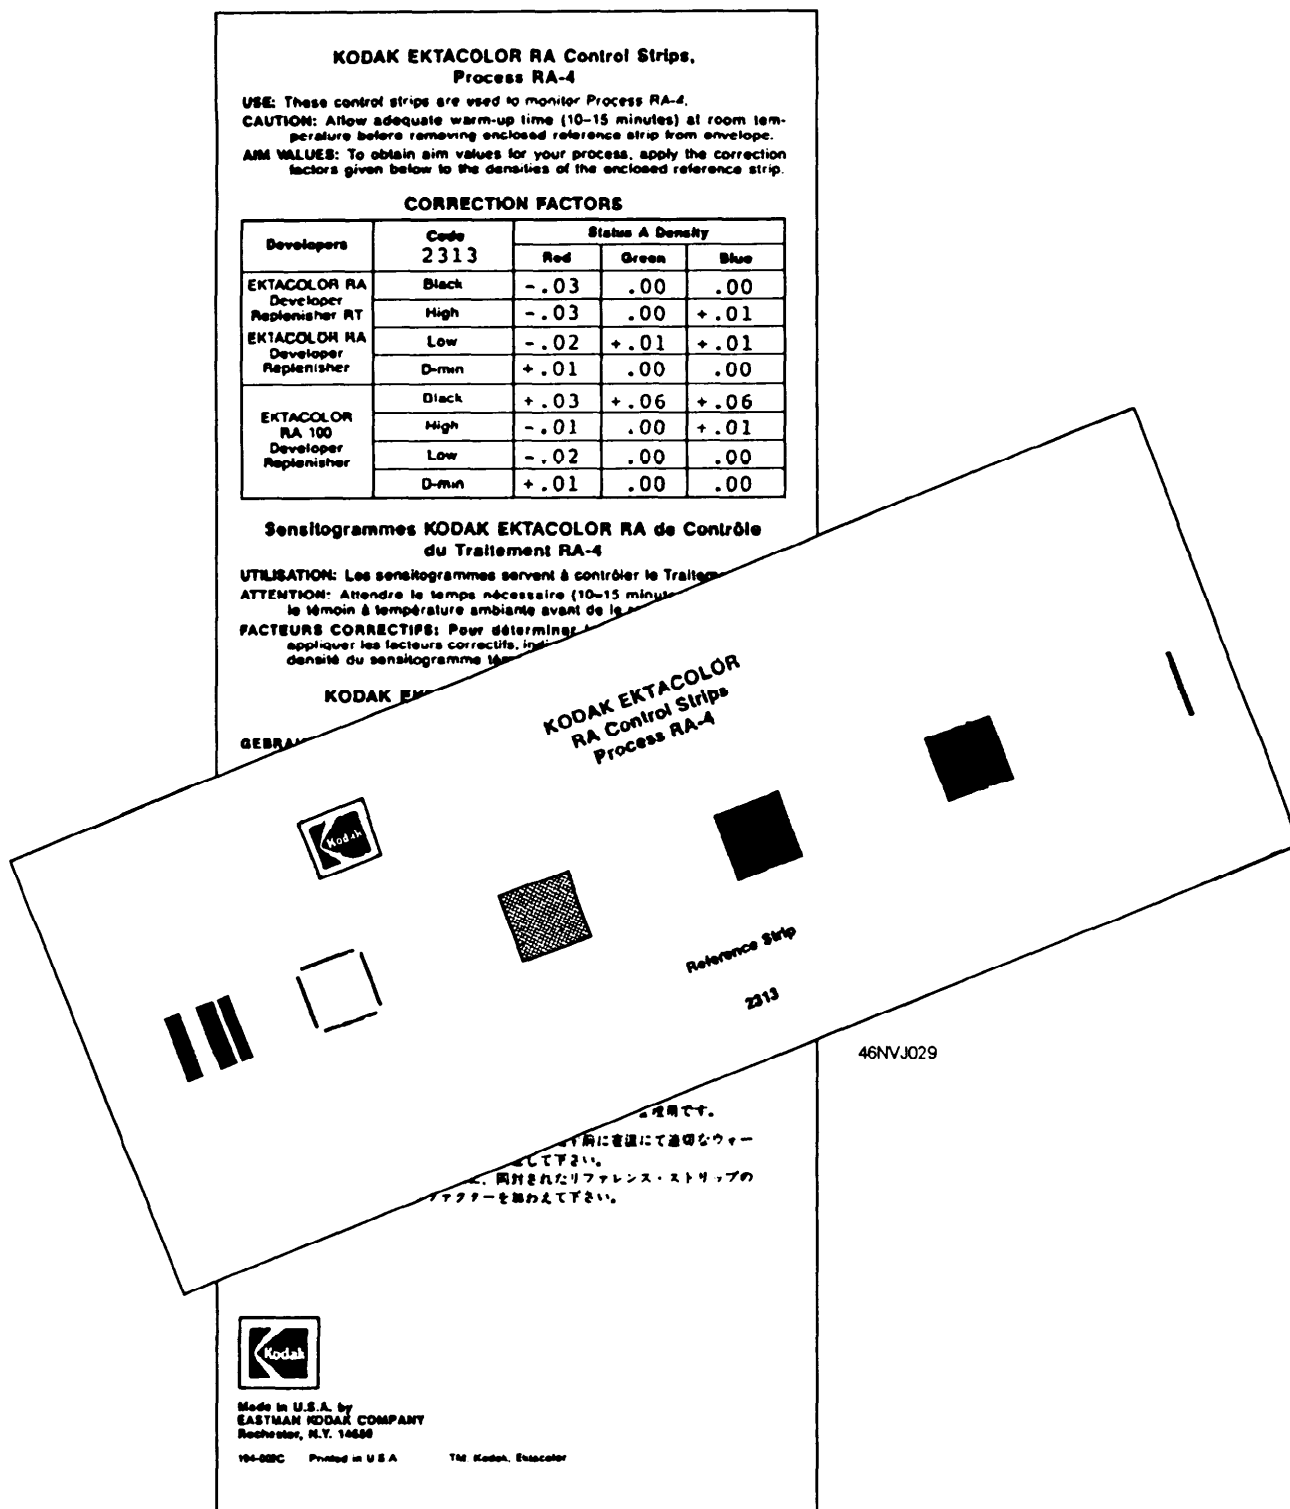

Figure 2-16.—Correction factors supplied with control strips.
2. Determine initial reference values for the particular code of control strips you are using. This generally consists of reading the reference strip on the densitometer, recording the densities, and adding or subtracting correction factors (supplied with control strips). (See fig. 2-16.) When available, average the reading of several reference strips to minimize the effects of variability.